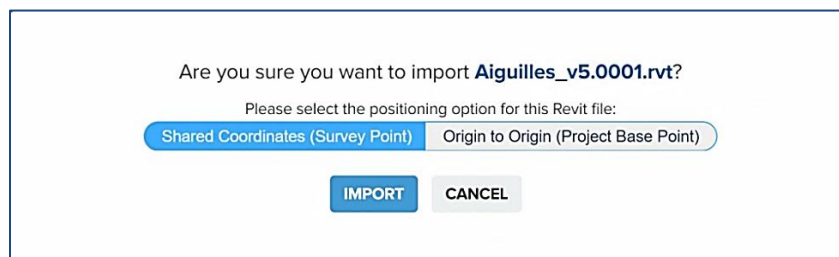

FIGURE 5: SELECTING REVIT COORDINATE SYSTEM
- When selecting a Revit file, you will be asked to select the positioning option between ‘Shared Coordinates’ and ‘Origin to Origin’: (Figure 5)